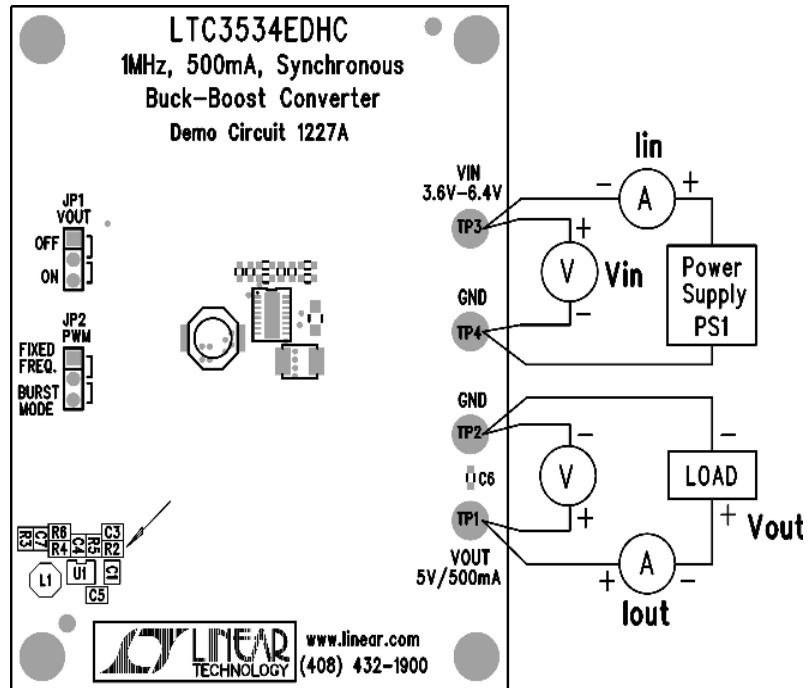

Figure 1. Proper Measurement Equipment Setup
Using short twisted pair leads for any power connections and with all loads and power supplies off, refer to Figure 1 for the proper measurement and equipment setup. The Battery/Power Supply (PS1) should not be connected to the circuit until told to do so in the procedure below.
2. With power OFF connect the power supply (PS1) as shown in Figure 1. If accurate current measurements are desired (for efficiency calculation for example) then connect an ammeter in series with the supply as shown. The ammeter is not required however.
3. Connect the load to VOUT as shown in Figure 1. Again, connect an ammeter if accurate current measurement or monitoring is desired.